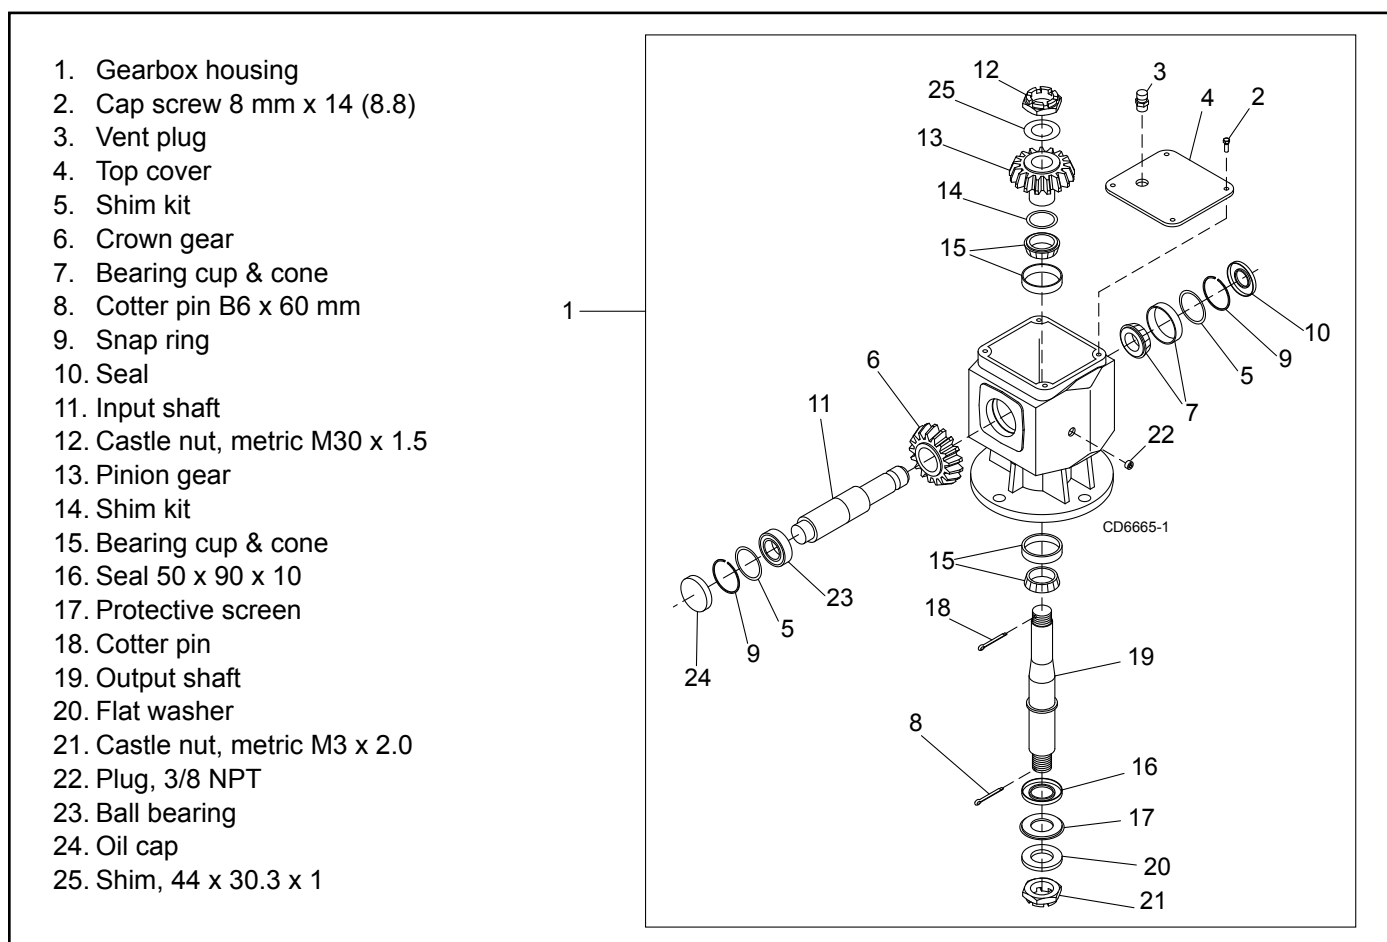

Figure 18. BB72.40, BB84.40 Gearbox Assembly
Refer to Figure 18.
2. Remove vent plug (3) and siphon gear lube from housing through this opening.
3. If the leak occurred at either end of horizontal shaft (spindle gearbox), remove oil cap (24) and/or oil seal (10). For splitter gearbox (Figure 18) use oil seals (11) and (17). Replace with new one (refer to Seal Installation, page 23).